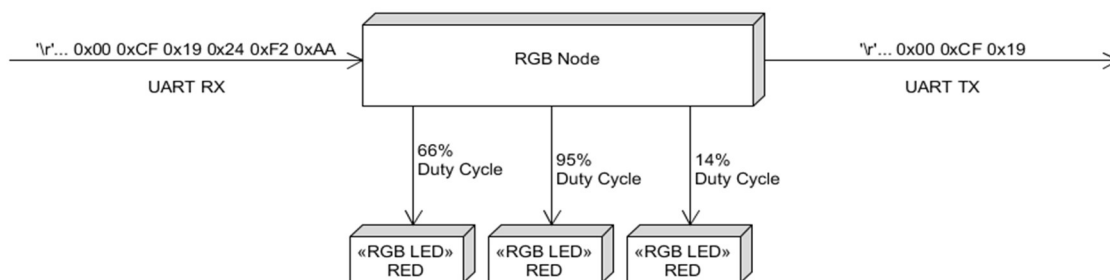

Figure 3: Single Node
It was necessary for each node to be able to take the string of HEX values from the master node or a previous node in through UART RX. The nodes were made to be modular, meaning that it can be used alone, but can be easily daisy chained together. Either way the node will perform properly. The first byte contains the size of the package (N). The second, third, and fourth byte were used to set the duty cycle of each LED. The second byte corresponds to the Red LED, the third corresponds to the Blue LED, and the fourth corresponds to the Green LED. The rest of the string had to be repackaged and sent to the next node. (*Appendix 8.1: Table of Description of Bytes 1-N*) Figure 3 shown below shows how one node should operate.